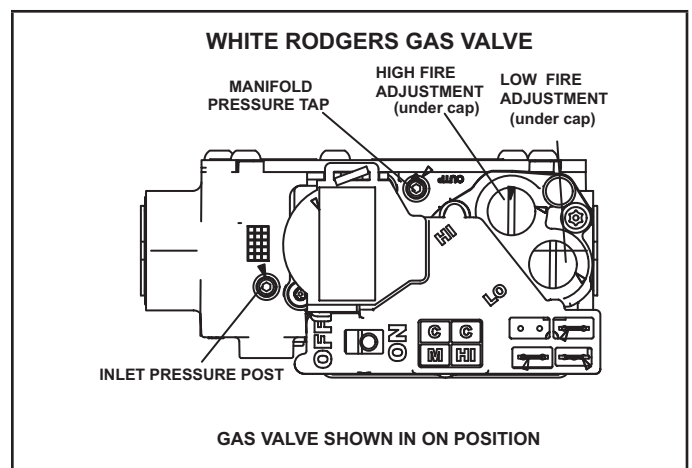
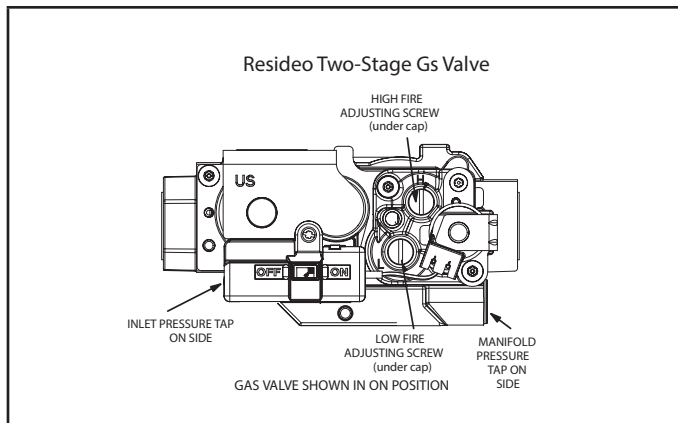

FIGURE 34
FIGURE 35
Gas Valve Operation (FIGURE 34 and FIGURE 35)
- 6 - Move switch on gas valve to OFF. Do not force. See FIGURE 34 and FIGURE 35.
- 8 - Move switch on gas valve to ON. Do not force. See FIGURE 34 and FIGURE 35.
An inlet post located on the gas valve provides access to the supply pressure. See FIGURE 34. Back out the 3/32” hex screw one turn, connect a piece of 5/16” tubing and connect to a manometer to measure supply pressure. See TABLE 13 for supply line pressure.
A manifold pressure tap located on the gas valve provides access to the manifold pressure. See FIGURE 34. Back out the 3/32 hex screw one turn, connect a piece of 5/16” tubing and connect to a manometer to measure manifold pressure.